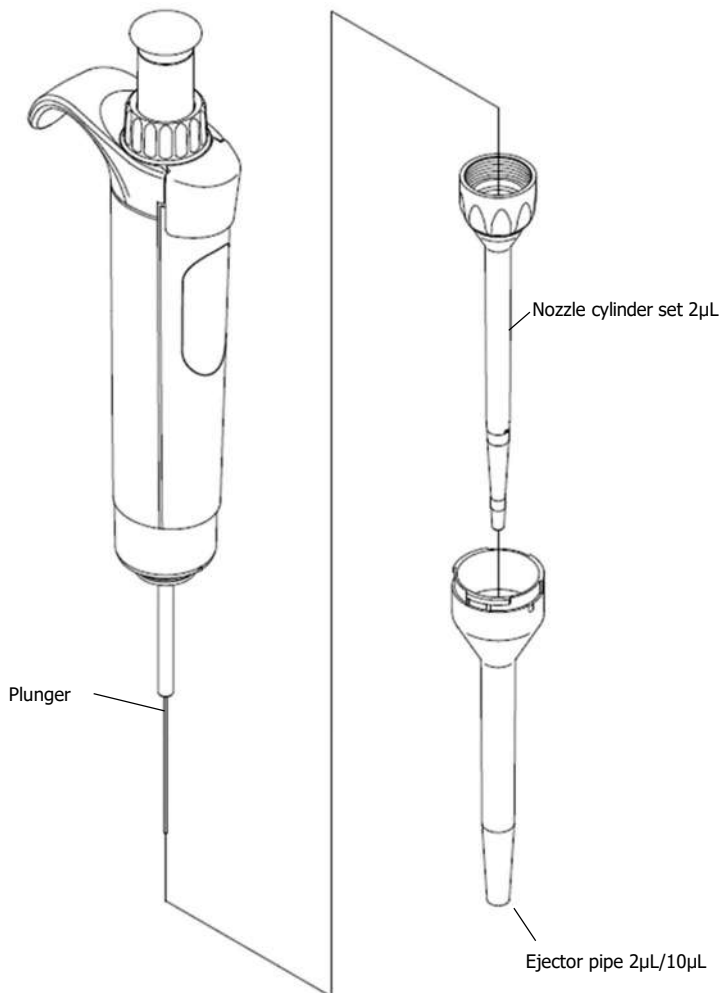

Fig. 4-8
- 2 μ L, 10 μ L (Fig. 4-8, 4-9)